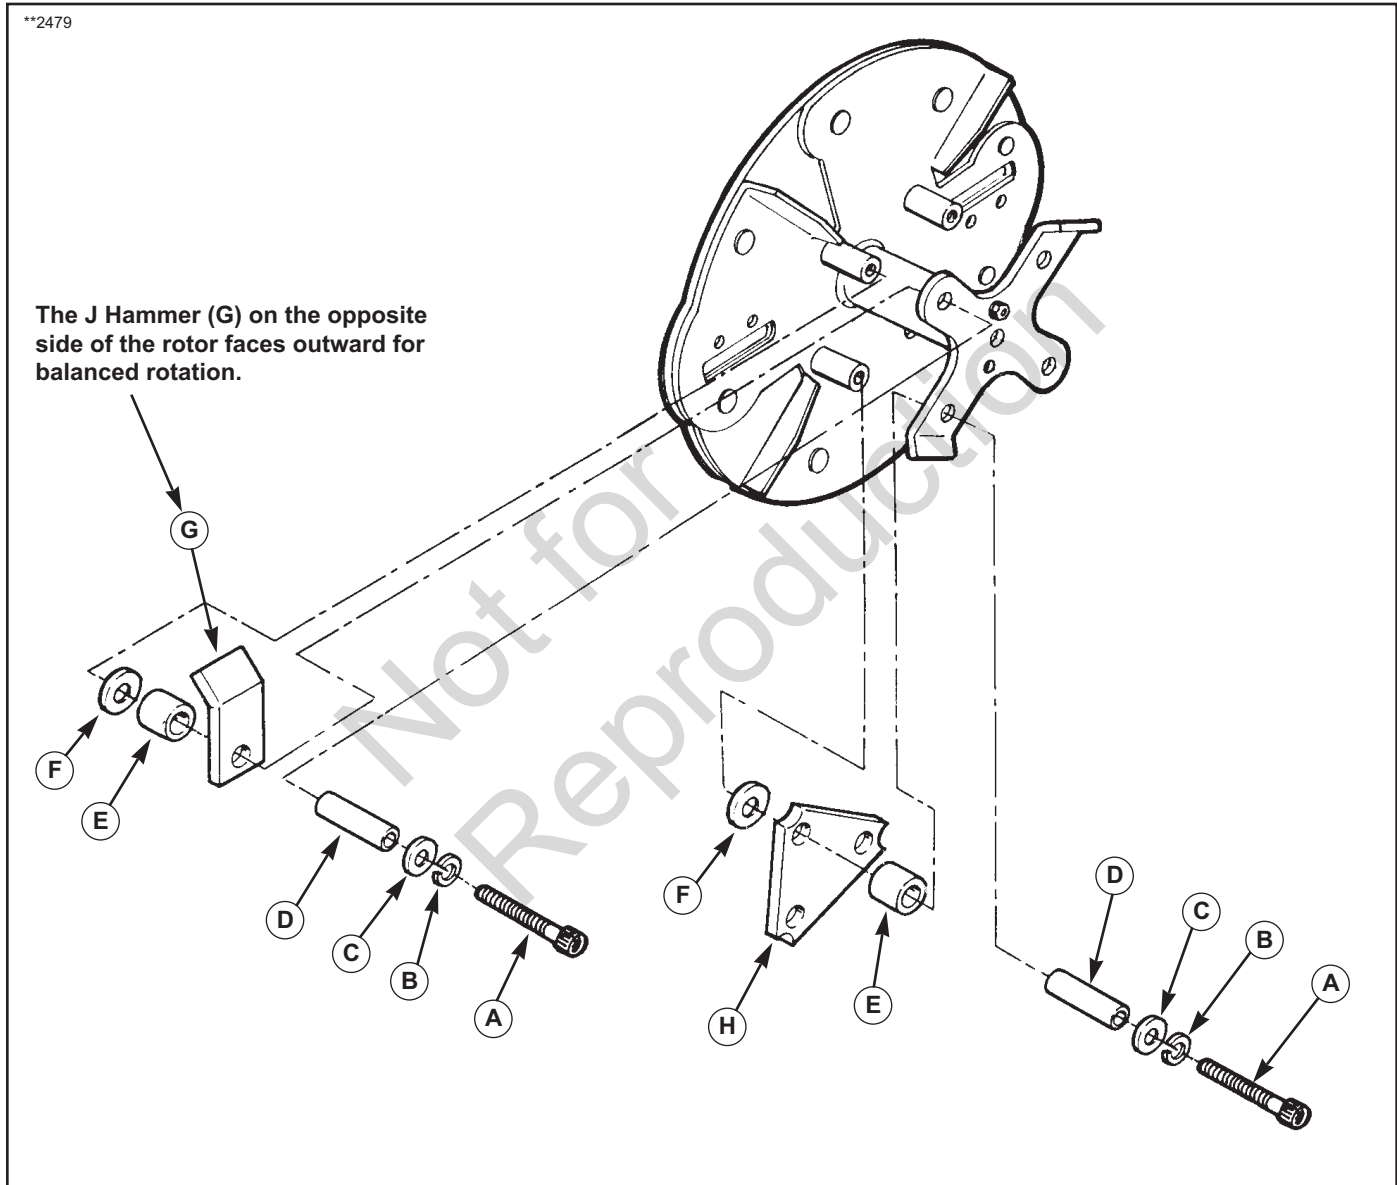

Figure 20. Proper Hammer Assembly
- Before proceeding, note the assembly sequence of the hammer, spacer, spacer tube, and hardware. Hammers and spacers must be reassembled in the same order to ensure proper rotor balance, shredding efficiency, and safety. See Figure 20 for correct position of parts.
- See Figure 20. Using a 5/16" Allen wrench, remove the socket head capscrew (A), lockwasher (B), flat washer (C), and spacer tube (D), being careful to catch the parts as the capscrew is removed.